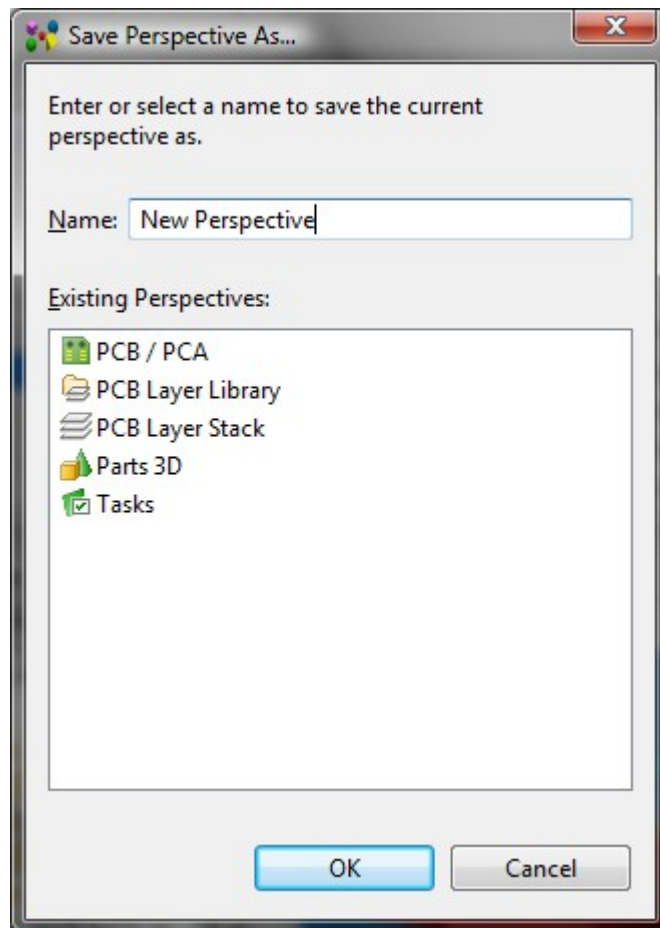

Figure 2. Save Perspective As... dialog window
- The **Save Perspective As...** dialog window appears (see Figure 2).